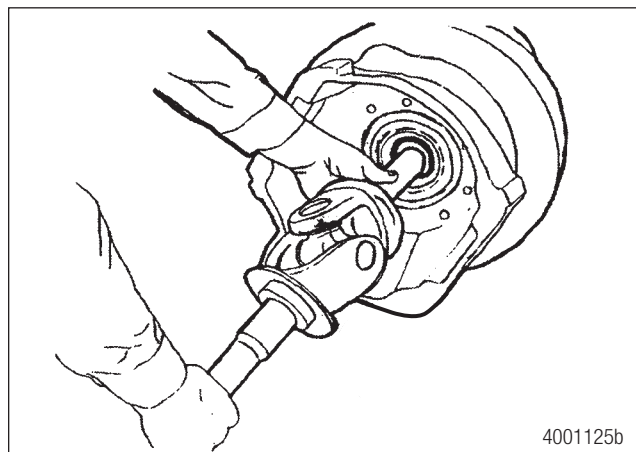

Figure 14.1
2. Insert the shaft into the wheel end first. The shaft must fully seat against the seal. The shaft will bottom out solidly when the seal is fully seated. Do not retract the shaft after it is fully seated or the axle shaft seal will need to be replaced. Figure 14.1.